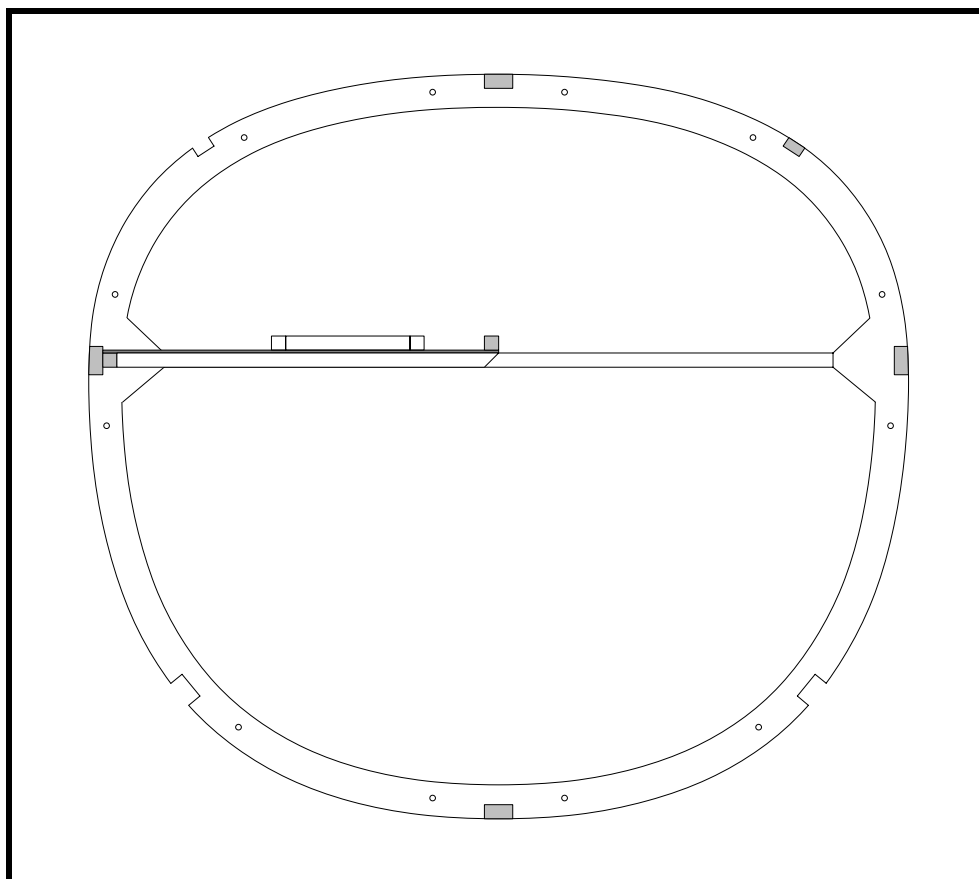

Figure 35
- ❑ Glue the floorboard assembly in place. See Figure 35, which is a view looking forward at frame No. 8.